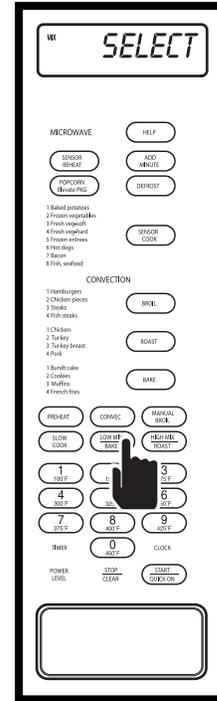

Figure 3-90. Press LOW MIX/BAKE Key
2. Press LOW MIX/BAKE key, "SELECT - TEMP" will flash on display. (See Figure 3-90)